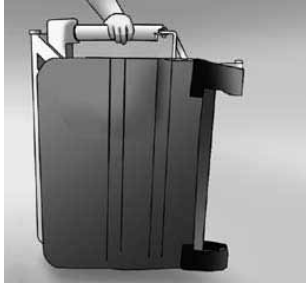

Figure 1.
- Unpack the bed backrest from the carton and place it on the floor as shown in **Figure 1**.